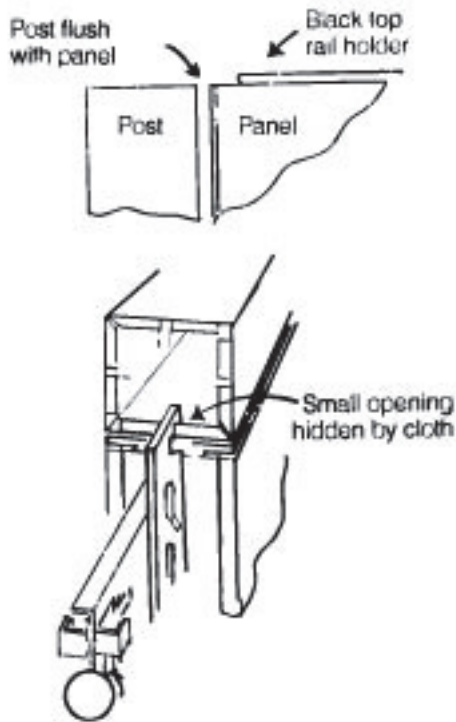

Fig. 4
2. Use ratchet with 3/8" socket, and tighten on bottom slide so it raises and holds post. (DO NOT over tighten as post will pull away from top of panel.) See Fig. 4.